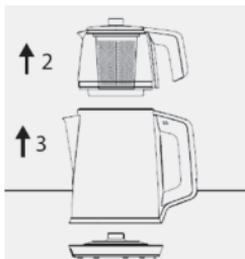

Figure 1- Displacing the Teapot and Water Heater from the Bottom
- Plug in your appliance. After lifting the teapot (2), displace the water heater (1) from the bottom unit (8).
- Fill the water heater (1) with water up to the max. line and replace it on the bottom unit (8).
- Slightly press the on/off switch (6) downwards and turn it on.
- Take the boiling / heat stabilising switch (5) to position. The heating pilot light (6) will turn red.
- Displace the water heater (1) from the bottom unit after taking the teapot (2) from top of it. (Figure 1)